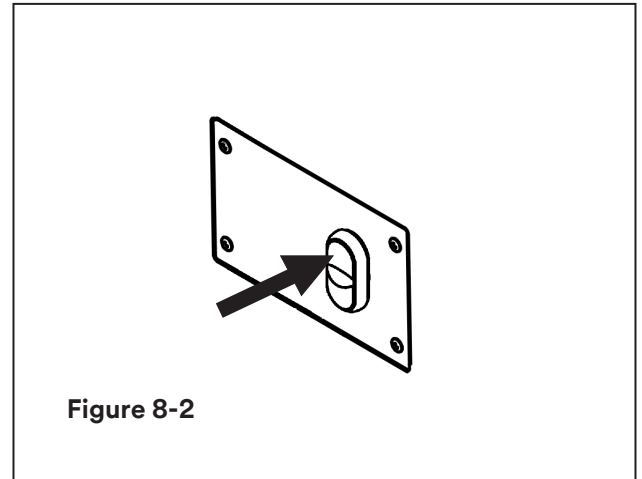

Figure 8-2
- The main switch On/Off “ON” (I) (Figure 8-2)